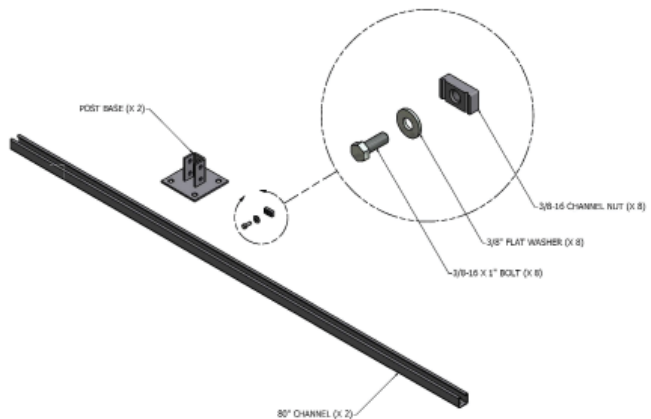

Figure 6
For floor mounting the manifold control panel and headers, a manifold control panel stand kit and an appropriate number of manifold header stand kits should have been ordered separately. One manifold control panel stand kit contains all items needed to mount the control panel. Depending on the number of header segments, one or more header stand kits are required. A header stand is required for each header segment. Each header stand kit contains two vertical stands and all necessary items to support one header segment on each side of the manifold. Verify contents of stand kits (Figures 6 and 7):
15. Assemble u-bolt and bracket hardware as shown in Figure 6. Tighten u-bolt nuts.
Refer to Figure 6 for power supply connections.